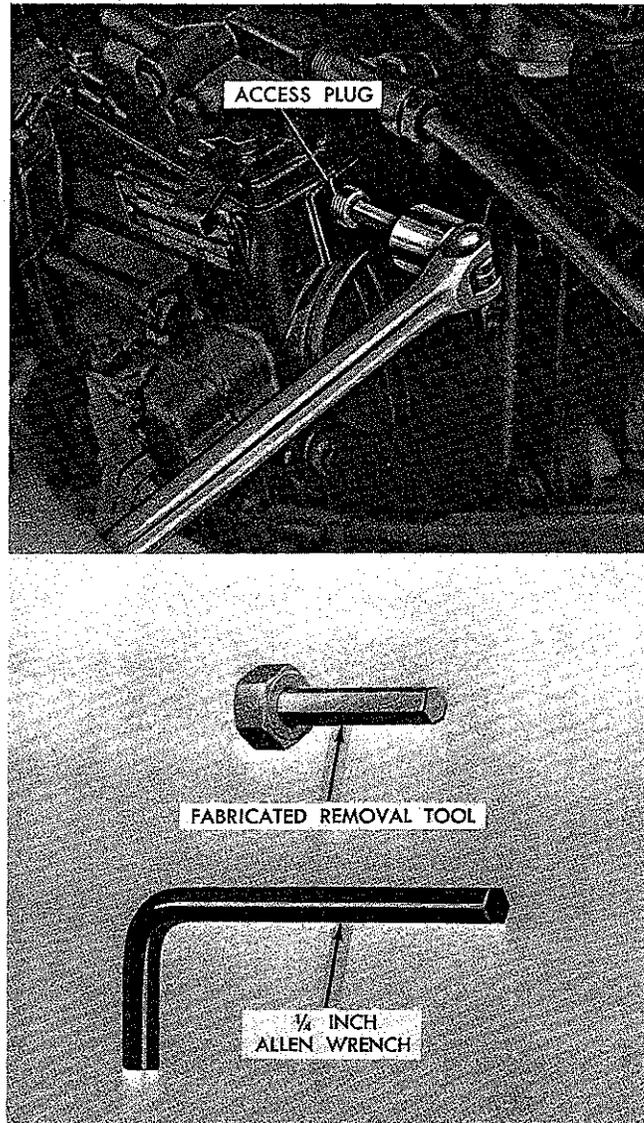

Figure 58
- (1) To gain access to the droop screw, remove the 1/4-inch Allen plug from the rear of the injection pump governor housing, Figure 58.
Note. A 1/4-inch Allen wrench may be used, or a removal tool as shown in Figure 58 can be fabricated.